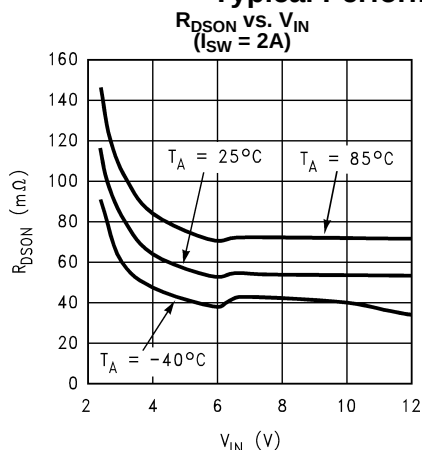

Figure 9.
- $R_{DS(on)}$ is the ON resistance of the internal switch taken Figure 9 (5)
- $R_{\text{DS(on)}}$ is the value chosen from Figure 9 (19)